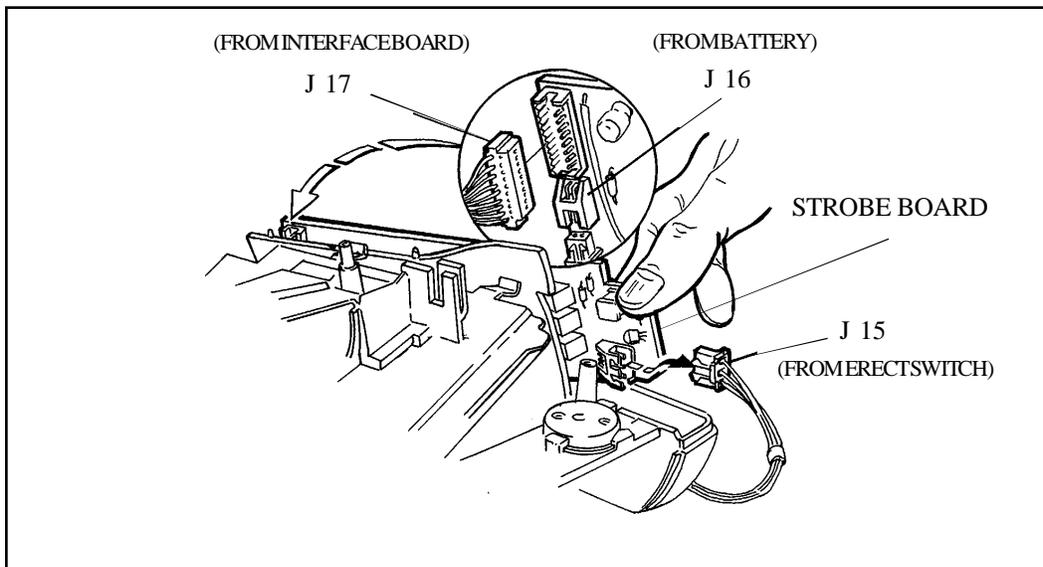

Figure 3-22. Disconnecting Erect Switch (J15), Interface Board (J17) and Battery cables (J16) from Strobe Board
- b. Lift one end of the Strobe Board and disconnect the Erect Switch (J15), Interface Board (J17) and Battery connectors (J16) from the Strobe PC Board (Figure 3-22).